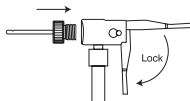

Fig. 3
1. Attach the ball needle to the quick connector of the air hose. Push the lever of the air hose to lock it into place (see Fig. 3).